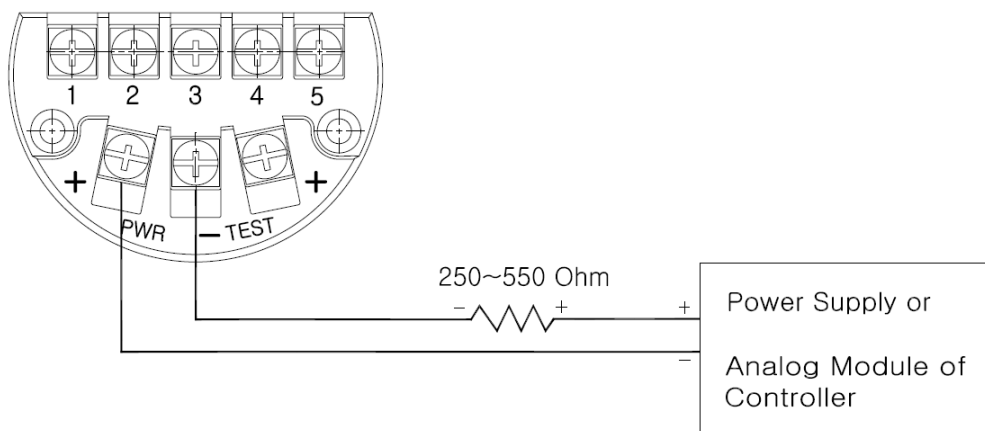

Figure 4-2. Connection of Current loop
- (7) You have to connect 250~600 ohm Loop Resistor in Current Loop(between Power Supply and Transmitter) for HART Communication HART. Following Figure 4-2 is about connection of Current Loop.